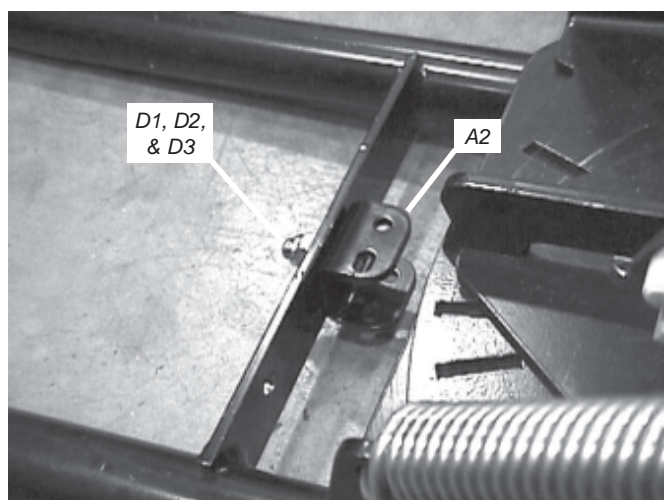

Figure 6 Installed J-bolt Bracket
7. Attach the J-bolt bracket (A2) to the center hole in the plow crossmember using a 3/8" dia x 1" long bolt (D1) as shown in figure 6. The bracket should be mounted on the blade side of the crossmember with the side flanges parallel to the ground. Terminate the bolt with a 3/8" dia flat washer (D2) and 3/8" dia nylock nut (D3). Tighten the bolt and nut to a recommended torque of 20 ft-lb (28 N-m).